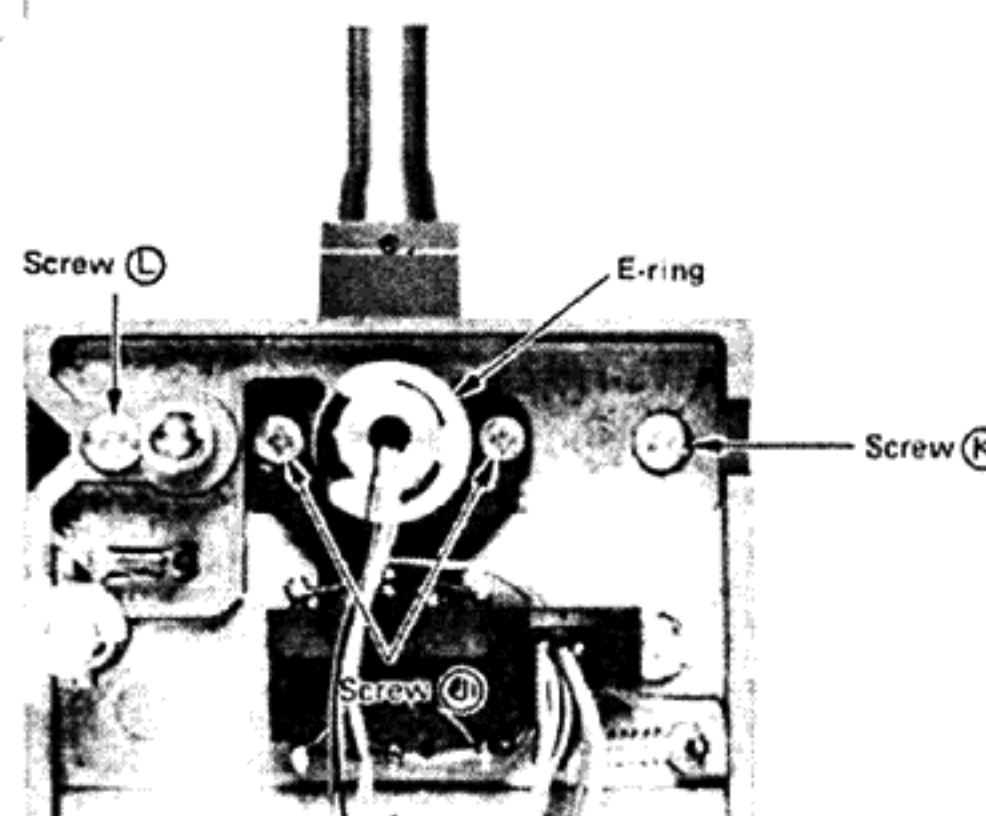

Fig. 7
- 6) Remove the E-ring, two screws (J) and two screws (K) and (L), referring to Fig. 7. Now, the tonearm can be taken off.